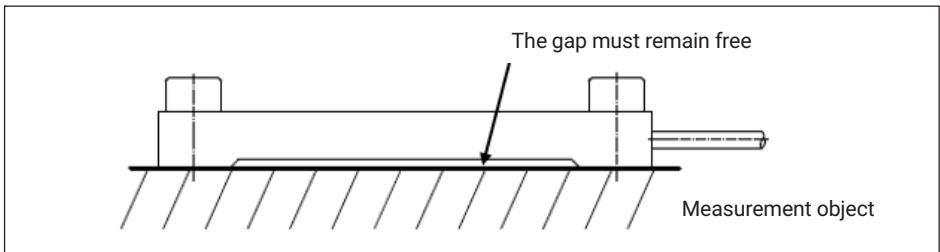

Fig. 7.2 *Installing the strain transducer*
- The mounting of the strain transducer is shown in Fig. 7.2.
- The strain transducer must not rest in the central, offset area (see Fig. 7.2) and must be mounted without distortion.